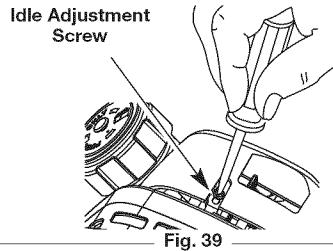

Fig. 39
2. Release the throttle trigger and let the engine idle. If the engine stops, insert a small phillips or flat blade screwdriver into the hole in the air filter/muffler cover (Fig. 39). Turn the idle speed screw in, **clockwise**, 1/8 of a turn at a time (as needed) until the engine idles smoothly.